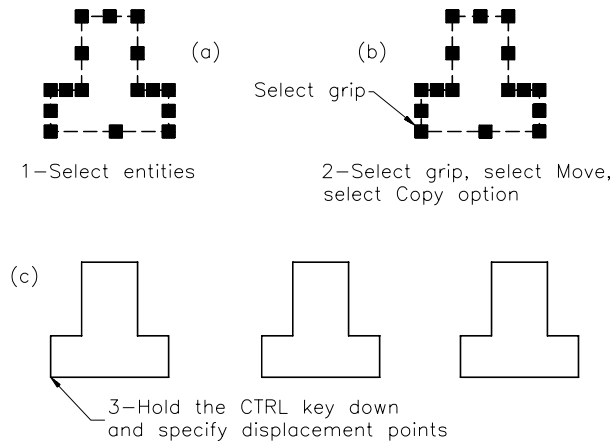

Figure 6-10 Using the **Move** mode to move and make copies of the selected objects
1. Use the **LINE** command to draw the shape, as shown in Figure 6-10(a). When you select the objects, grips will be displayed at the definition points and the object will be highlighted.